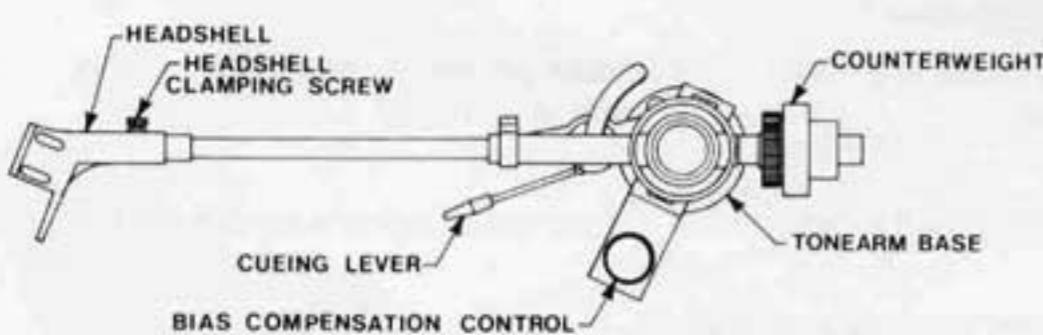
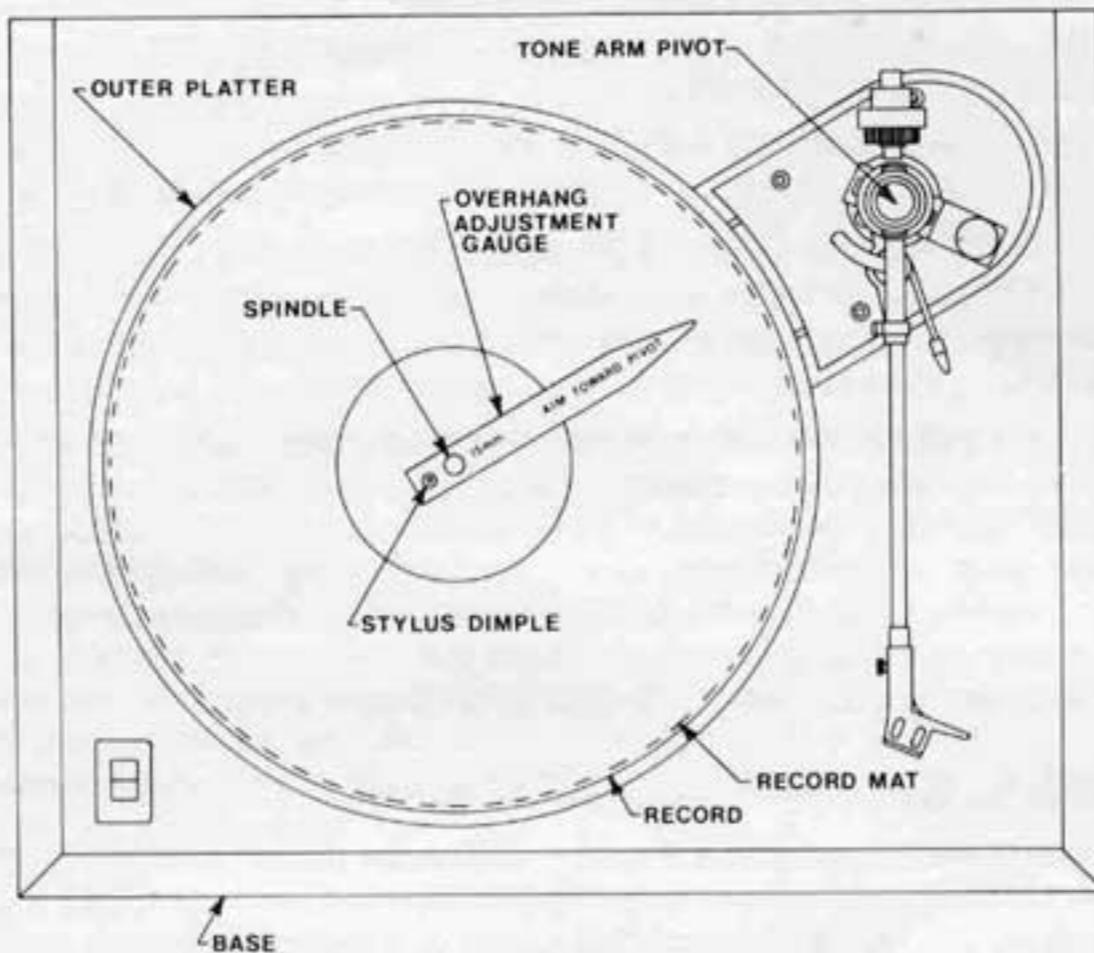

FIG. 3
FIG.5
- (1) Mount the cartridge of your choice in the headshell. Follow the manufacturer's instructions in doing this and use either hardware supplied with the cartridge or that supplied with this turntable. The wiring in the headshell is color coded as follows: Right channel: red +, green -. Left channel: white +, blue -.
- (2) Now mount the headshell in the tonearm. First loosen the headshell clamping screw on the arm (see fig 3), push the headshell plug firmly home into the end of the tonearm, and then re-tighten the clamping screw.
- (3) Mount the counterweight onto the rear of the tonearm. This is achieved by holding the weight by the large diameter and pushing it onto the rear of the tonearm (with the white numbers to the front) whilst rotating it in an anti-clockwise direction when viewed from the front.
- (4) Set the tracking force to about 1 gram. To do this, the arm first must be set to zero tracking force. Set the bias compensation control (fig 3) to zero, release the arm from the arm-rest, and then rotate the large-diameter counterweight until the arm floats freely in a horizontal position. The arm is now balanced to zero. Without moving the counterweight itself, now rotate the knurled calibrated dial relative to the counterweight until "0" is next to the white line on the tonearm. Now rotate the whole counterweight together with the calibrated dial in an anti-clockwise direction using the large diameter again until "1" is against the white line. The tracking force is now set to 1 gram.
- (6) Set the stylus overhang to 15mm. The clear plastic overhang gauge provided in the accessories is used for this step. Place the hole in the gauge over the turntable spindle and aim the pointed end of the gauge towards the pivot of the tonearm (fig 5). Loosen the screws holding the cartridge in the headshell and adjust the position of the cartridge backwards or forwards until the stylus point sits in the dimple in the raised portion of the gauge. CAUTION — CARE MUST BE TAKEN NOT TO DAMAGE THE STYLUS ASSEMBLY IN THIS STEP. When the stylus is in this position with the cartridge body parallel to the straight edge of the headshell, tighten the cartridge retaining screws firmly and re-check that the cartridge position did not move in doing this.
- (7) Rebalance the arm to zero and set the tracking force recommended by the cartridge manufacturer using the steps outlined in section (4).
- (8) Set the bias compensation force (fig 3). The dial should be turned to the tracking force set in section (7).
- (1) Connection. Your AR Turntable is connected to your amplifier or receiver using the phono cables attached to it (if complete with the AR Tonearm) or those that came with the arm of your choice. Units purchased with the AR Tonearm also have a single wire attached to the phono cables which may be attached to the grounding screw on your receiver or amplifier. This will normally ensure that no problems with hum are experienced.
- (2) Hinged dust-cover. The dust-cover supplied with your turntable fits directly into the two hinges on the rear of the unit. It is a friction fit and is merely slid into place. It should be positioned such that the long slanting edge is to the front of the unit.
- (3) Playing a record. To turn on your AR Turntable, the on/off switch is located at the front left of the base. If your unit was supplied with the AR Tonearm, then this may be lowered onto the record by using the damped lowering mechanism, the control for which is the straight lever to the right front of the tonearm bearing (see fig 3).
- (4) Speed change. Your AR Turntable will play at either $33\frac{1}{3}$ RPM or at 45 RPM. Speed change is effected by switching off the unit, removing the outer platter and then moving the belt to the correct diameter on the drive pulley. The small diameter is $33\frac{1}{3}$ RPM, the large diameter is 45 RPM.